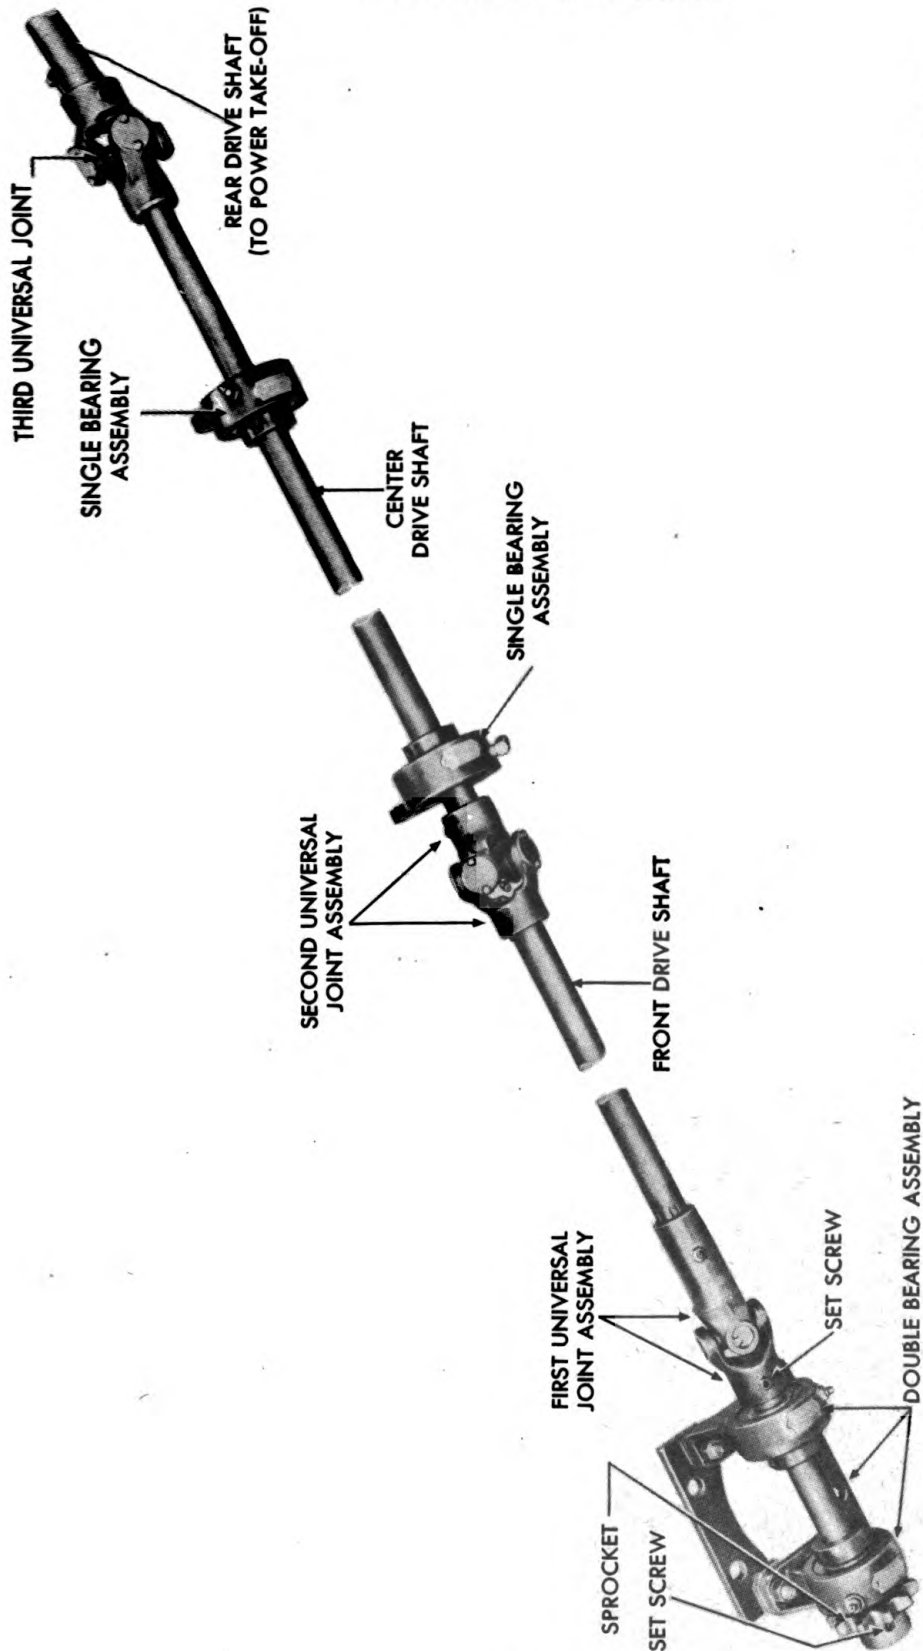

Figure 28 — Drive Shafts and Universal Joints
(1) **DISASSEMBLE DRIVE SHAFTS (fig. 28).** Remove universal joint at power take-off by loosening set screw and sliding off rear drive shaft; then remove key from shaft. Loosen set screw that holds third universal joint to rear drive shaft, and remove shaft. Remove key from shaft, loosen set screw that holds third universal joint to center drive shaft, and remove universal joint and key from shaft. Loosen two set screws that hold two single bearing collars to center drive shaft, and remove bearings and collars from center drive shaft. Loosen set screw and key that holds second universal joint to center drive shaft, and remove universal joint and key from shaft. Remove key from rear end of front drive shaft. Remove set screw that holds first universal joint to double bearing, and remove universal joint and key from shaft.
(3) **ASSEMBLE DRIVE SHAFTS** (fig. 28). Install key on rear end of front drive shaft; then install key and second universal joint on center drive shaft. Fasten joint with set screw. Install bearings and collars on center drive shaft and fasten collars with set screws. Install key and third universal joint on center drive shaft, and fasten joint with set screw. Install rear drive shaft in third universal joint, and secure with set screw. Install key and universal joint for power take-off on rear drive shaft, and secure joint with set screw.